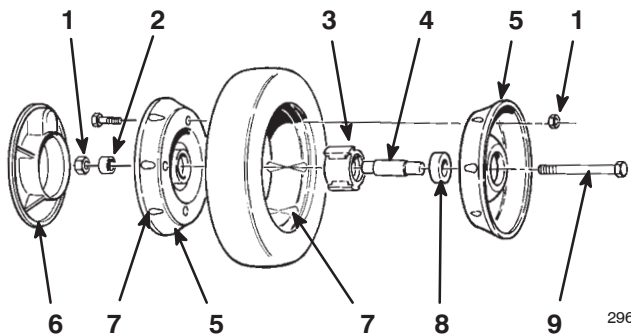

Figure 40
- Remove the cap screw, the wheel spacer, and the locknut mounting the wheel to the pivot arm (Fig. 40).
- Separate the wheel halves from the tire by removing 4 cap screws and 4 locknuts (Fig. 40).
Note: If you remove the bearings from the bearing/hub assembly, remove them by pressing on the bearing spacer (Fig. 40).
- Position the tire onto one wheel half, aligning the lugs on each (Fig. 40).
- Place the bearing/hub assembly into the center hole of the wheel half. Ensure that the legs of the hub are positioned over the flange of the hole (Fig. 40).
- Place the other wheel half onto the bearing/hub assembly, aligning the wheel and the tire lugs and the mounting holes (Fig. 40).
- Using 2 fully threaded screws or bolts (1/4–20 x 1.50 in.) and non-locking nuts, loosely secure the wheel halves together. Mount the screws or bolts in the opposing holes (Fig. 40).
- Check the alignment of all parts and tighten the screws, alternating from side to side for a uniform fit, until the wheel halves are drawn together (Fig. 40).
- Install the 2 cap screws and 2 locknuts previously removed in the remaining holes in the wheel halves and tighten. Remove the 2 long screws or bolts and replace them with 2 cap screws and 2 locknuts (Fig. 40).
- Install the wheel to the pivot arm with the cap screws, a spacer, and a locknut. Ensure that the spacer is positioned between the wheel hub and the pivot arm (Fig. 40).